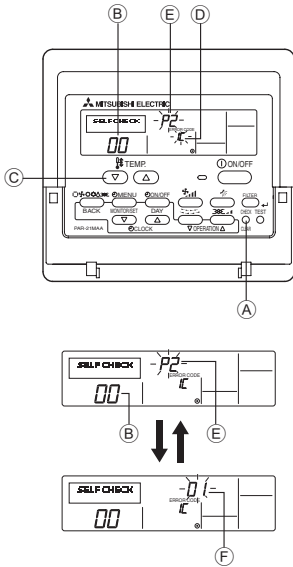

Fig. 7-3
7.3.1. Wired remote controller (Fig. 7-3)
- ① Turn on the power.
- ② Press the [CHECK] button twice.
- ③ Set refrigerant address with [TEMP] button if system control is used.
- ④ Press the [ON/OFF] button to stop the self-check.
- (A) CHECK button
- (B) Refrigerant address
- (C) TEMP. button
- (D) IC: Indoor unit